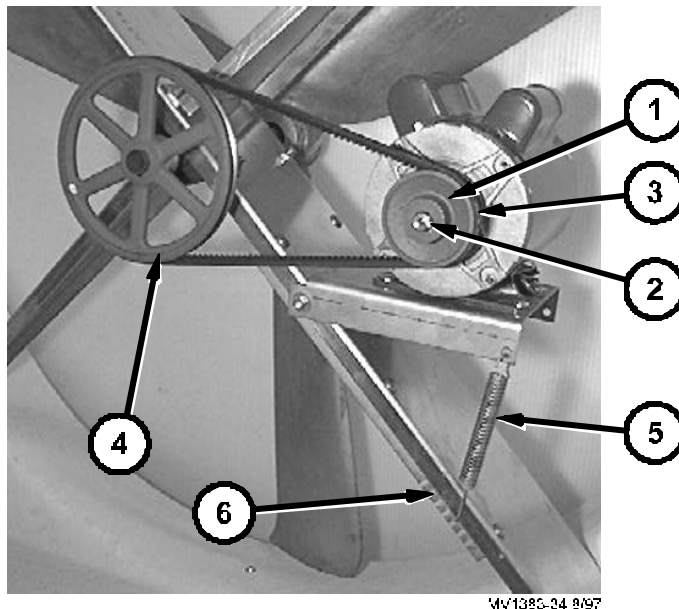

Figure 6. Fan Motor Installation
4. Install the Motor Sheave on the output shaft of the Motor, **Figure 6**.
- Once the belt is on, it will support the motor as pictured in **Figure 6**.